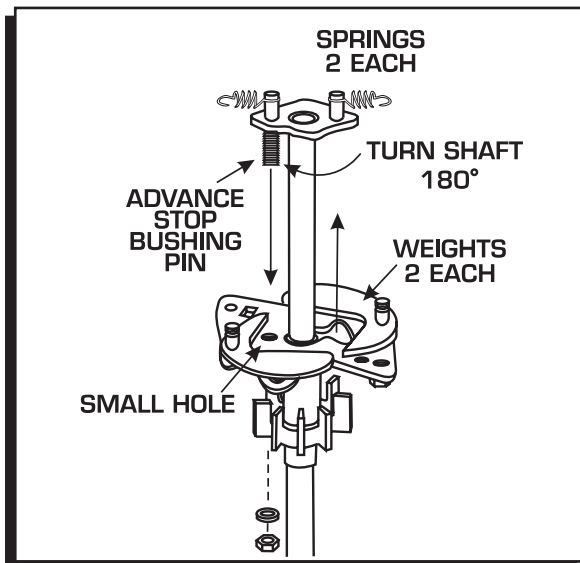

Figure 7 Locking Out the Advance.
3. Rotate the shaft 180° and insert the advance stop bushing pin into the small hole on the advance plate (Figure 7).